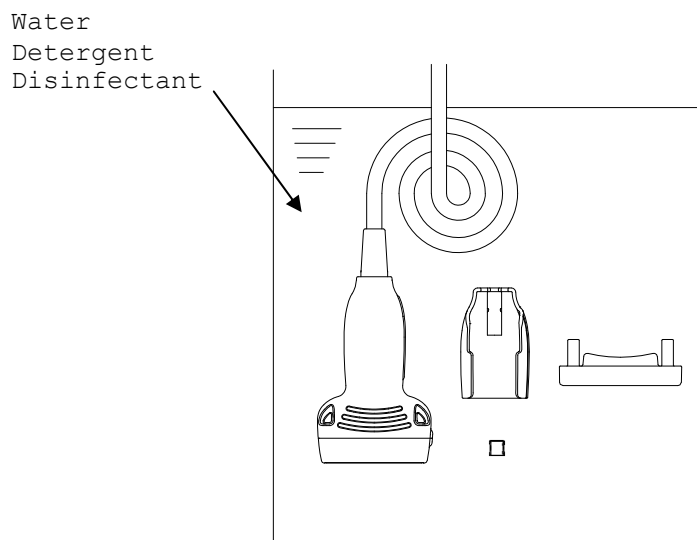

Fig. 14 Immersion of the probe, the magnetic sensor attachment, the spacer for EZU-RV2S and the elasto coupler
- 2) Immerse the immersible part of the probe without connector into the diluted detergent solution (see Fig. 14). Wipe the immersible part of the probe under the surface of the detergent solution with a soft cloth to remove all visible soil. Be sure that all grooves of the probe are implemented during the cleaning process.
- 5) Rinse the probe with running tap water for 1 minute. (alternatively: immerse the immersible part of the probe in a tray filled with deionized water/tap water (see Fig. 14) for 5 min.)
- 4) Rinse the magnetic sensor attachment and the spacer for EZU-RV2S with running tap water for 1 minute. (alternatively: immerse them in a tray filled with deionized water/tap water (see Fig. 14) for 5 min.)
- 3) Immerse the immersible part of the probe into the disinfectant (see Fig. 14). Set a clock to insure the recommended contact time which is 5 minutes.
- 4) Rinse the immersible part of the probe with deionized water for 1 minute. (alternatively: immerse the immersible part of the probe in a tray filled with deionized water (see Fig. 14) for 5 min.)
- 2) Immerse the magnetic sensor attachment and the spacer for EZU-RV2S into the disinfectant (see Fig. 14). Set a clock to insure the recommended contact time which is 5 minutes.
- 3) Rinse the magnetic sensor attachment and the spacer for EZU-RV2S with deionized water for 1 minute. (alternatively: immerse them in a tray filled with deionized water (see Fig. 14) for 5 min.)